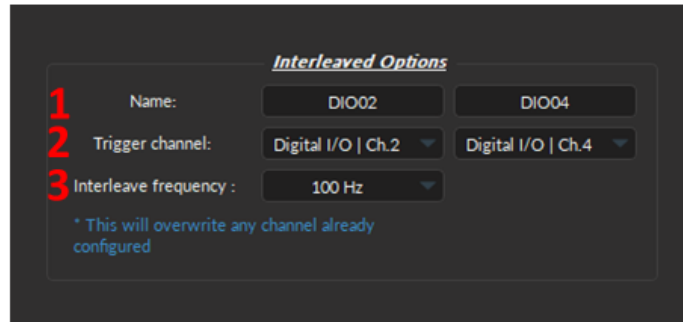

Figure 6.31: Channel(s) Configuration, Analog Input Interleaved
To use the **interleaved mode**, specify the parameters in the **Interleaved Options** section of the *Channel Configuration* window (Fig. 6.31):
1. The **Name** (Fig. 6.31, 1) lets users customize the label of the channel to increase the clarity of the acquisition system.
2. The **Trigger channel** (Fig. 6.31, 2) drop-down list allows the choice of interleaved outputs (can be either digital or analog). However, once the first channel is selected, the user will only be allowed to select the same type of output (analog or digital) for the second channel.
3. The **Interleave frequency** (Fig. 6.31, 3) drop-down list allows the choice of a pre-configured frequency (either 10, 20, 50 or 100Hz) for the interleaved channels. The two selected trigger channels will be configured to function at the chosen frequency.